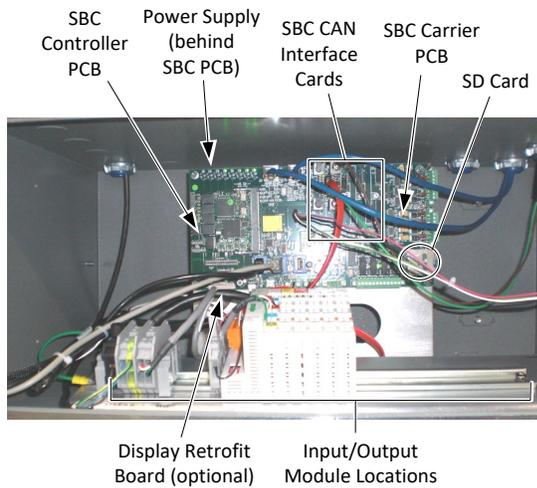

Fig. 8.4. Master Controller
8.2.1 Master controller chassis (see Figure 8.4)